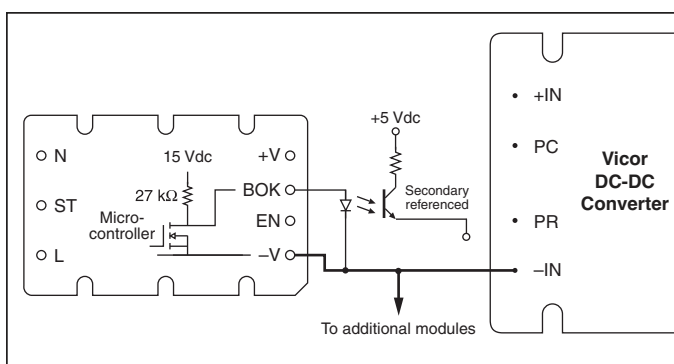

Figure 12 — Bus OK (B OK) isolated power status indicator
Bus-OK (B OK) Pin. (See Fig. 12). The Bus-OK pin is intended to provide early-warning power fail information and is also referenced to the negative output pin.
The power fail warning time (Δt) is defined as the interval between (B OK) and converter shutdown (EN) as illustrated in Fig. 12. The Bus-OK and Enable thresholds are 205 V and 190 V, respectively. A simplified relationship between power fail warning time, operating power, and bus capacitance is obtained by inserting these constants: